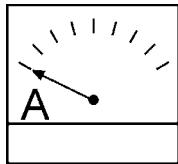

**Figure 43. Voltmeter**
7. The generator's AC-voltmeter (Figure 43) will display the generator's output in **VOLTS**. If the voltage is not within the specified tolerance, use the voltage adjustment control knob (Figure 44) to increase or decrease the desired voltage.